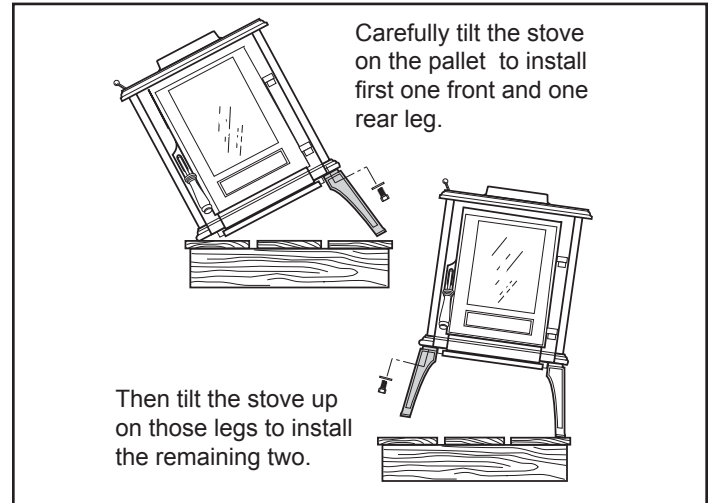

Figure 7.1 - Install legs on one side of stove then the other.
2. Install two legs, using the hex head bolts in the hardware pack along with the 3/8" washers that were used to hold the brackets in place. The shoulder of the legs should seat within the locator bosses cast into the stove bottom at each corner. (Figure 7.1) Tighten the bolts with the wrench. **CAUTION: Overtightening can strip tapped threads.**